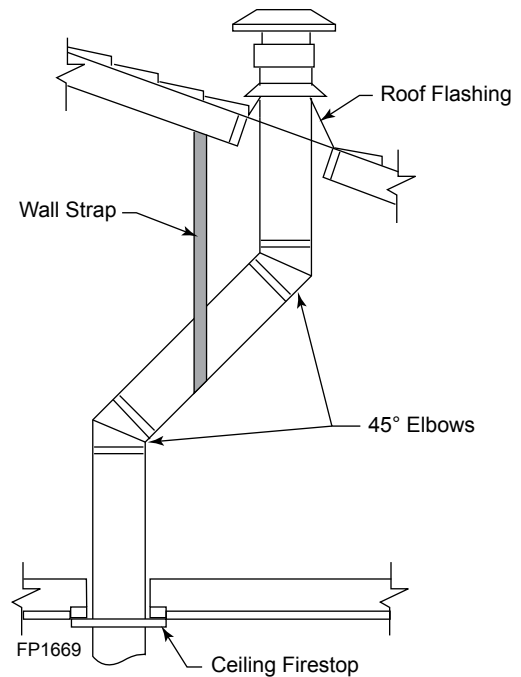

Figure 29 - Offset with Wall Strap and 45° Elbows
1. Determine the route your vertical venting will take. If ceiling joist, roof rafters or other framing will obstruct the venting system, consider an offset. *Figure 29* to avoid cutting load bearing members.